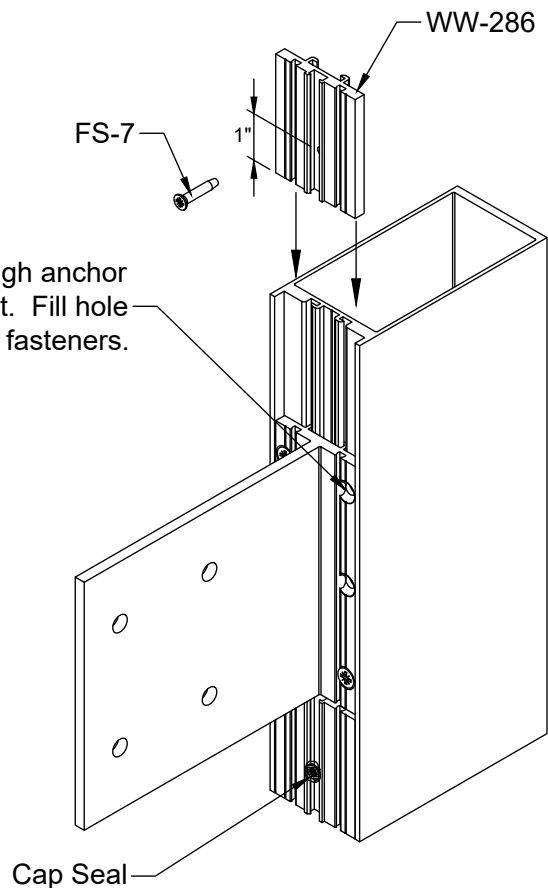

FIGURE 8
- 5) The WW-286 SSG glazing adaptor will run continuous except where it crosses the sunshade anchor. Slide the WW-286 onto the mullion between the sunshade anchors. Cut the WW-286 so there is a 1/8" joint above and below sunshade anchors. Attach with FS-7 (#10 x 3/4" flat head) at 1" from each end and 24" on center or based on Engineer's review. Match drill mullion using #25 (.149"Ø) drill bit. Fill holes with sealant and install fasteners. Once fastener is installed cap seal. See FIGURE 8